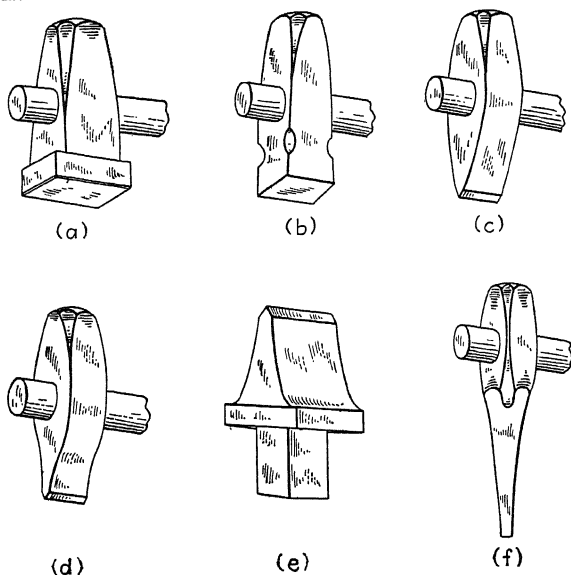
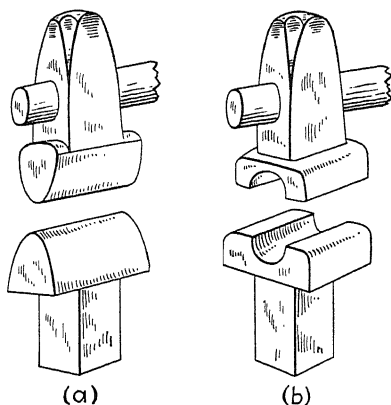

FIG. 250.—Anvil tools. *a*, Flatter; *b*, set hammer or square set; *c*, cold chisel; *d*, hot chisel; *e*, hardie; *f*, punch.
FIG. 251.-Anvil tools. a, Top and bottom fullers; b, top and bottom swages for round work.
receiving various tools with square shanks (see *e*, Fig. 250, also *a* and *b*, Fig. 251). The position of the smith is in front of the anvil with the horn at his left.
**305. Anvil Tools and Their Use.**—For a considerable part of anvil work the piece itself is struck, either by the smith with his hammer or by the helper with his sledge. In the latter case the smith directs the helper's stroke by himself striking a light blow where he wants the sledge to land and a light blow on the anvil as a signal to stop striking. Frequently, however, special anvil tools (Figs. 250 and 251) are held by the smith and struck by the helper. Some anvil tools are made in pairs (Fig. 251),
The old-time blacksmith used discarded buggy spokes for anvil-tool handles. A similar type of handle is still used. It should never be wedged in the eye like a hammer handle but should project an inch or more through the eye, as shown in Figs. 250 and 251. This is for safety; the loosening of the tool on the handle will be noticed at once.
The *flatter* (*a*, Fig. 250) is used for flattening and smoothing surfaces, removing hammer marks, etc. The face is smooth, about  $2\frac{1}{2}$  in. to 3 in. square, with rounded edges.
The *set hammer* (*b*, Fig. 250) is used for finishing corners in shouldered work where the flatter would be inconvenient. It is also used for drawing out. It is about  $1\frac{1}{4}$  in. square and is made in both square- and rounded-corner types.
The *cold chisel* (*c*, Fig. 250) is used for nicking cold stock preparatory to breaking off. The bar is nicked all around.
The *hot chisel* (d, Fig. 250) is thinner than the cold chisel. Hot metal cuts quite easily. Do not use a hot chisel over the face of the anvil; cut either at the edge of the anvil or on a
The *hardie* (e, Fig. 250) also is used for cutting hot metal. Place the work in position on the cutting edge, and strike with hammer or sledge. Use judgment in the force of the blow.
The *punch* (f, Fig. 250) is used for making a hole in hot metal by driving the punch halfway through from each side. First, make adequate center punch marks on opposite sides of the work to indicate clearly, when the metal is red hot, where the hole is to be. Second, drive the punch halfway through from one side. Third, turn the work over, locate the second center
*Fullers and swages* (Fig. 251) are made in many sizes, the top part fitted with a handle and the bottom part held in the hardie hole. Most swages are shaped for finishing cylindrical parts, but other shapes, such as square, hexagonal, etc., are used. Top swages may be used with the swage block (Fig. 249).